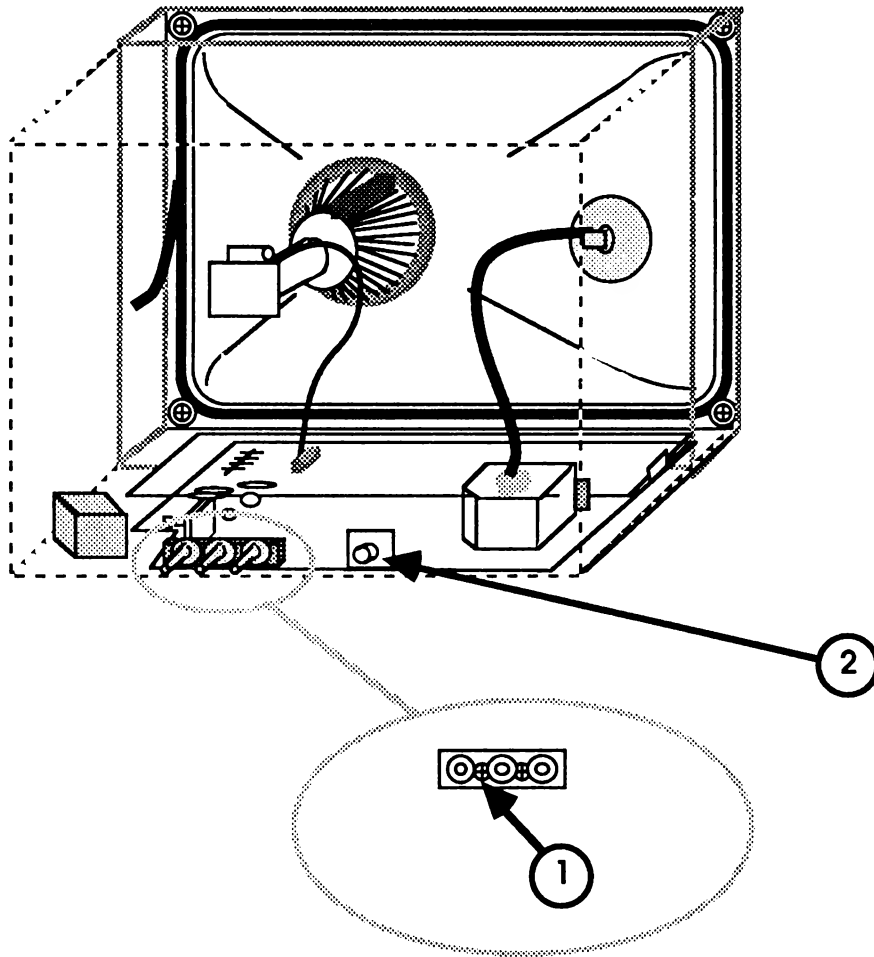

FIGURE 3
2. Turn the horizontal hold control (Figure 3, #1) **clockwise** until the screen goes out of synchronization.
2. Insert plastic flatblade screwdriver (tweaker) in Focus control (Figure 3, #2) and twist slightly to either side to improve focus.